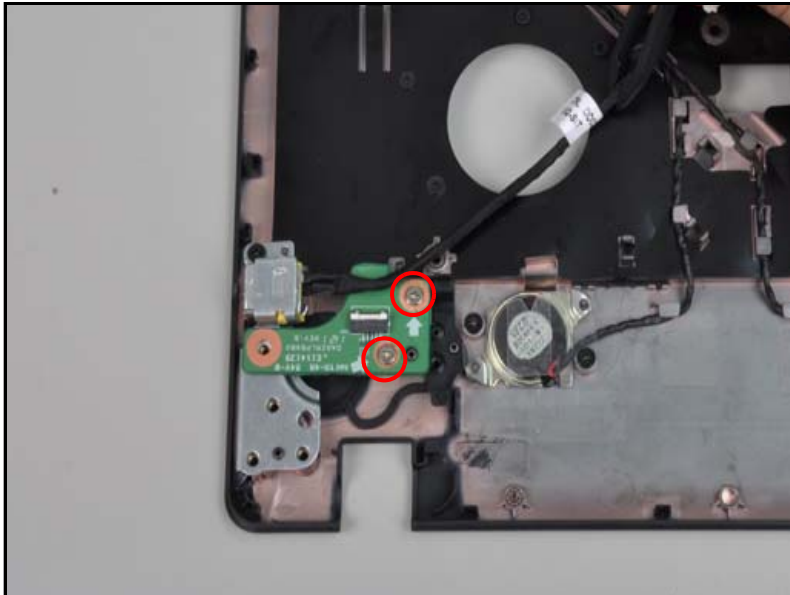

Figure 3-35. Power board screws removal
1. Remove the two (2) screws from the power board (Figure 3-35).
2. Install and secure two (2) screws to the power board. Refer to Figure 3-35